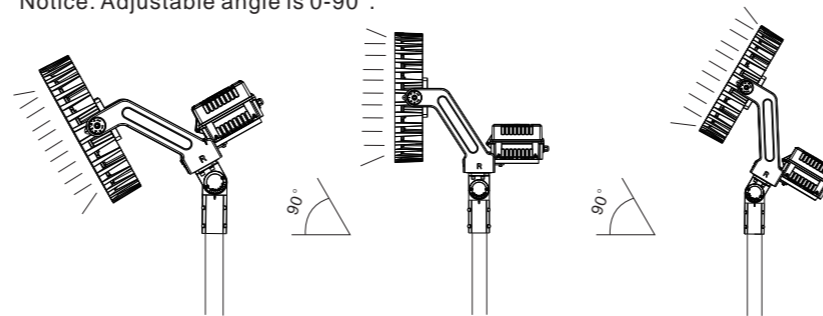

Figure 16
3. Use an open-end wrench and hex wrench to loosen the adjusting screw for adjusting the angle (Figure 16)